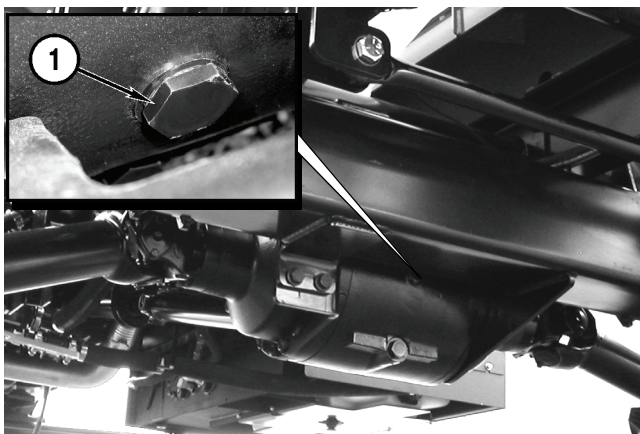

Figure 5-26
1. Remove the differential fill/level plug (**Figure 5-26, 1**) and check the fluid level. The fluid should be level with the bottom of the fill/level hole.